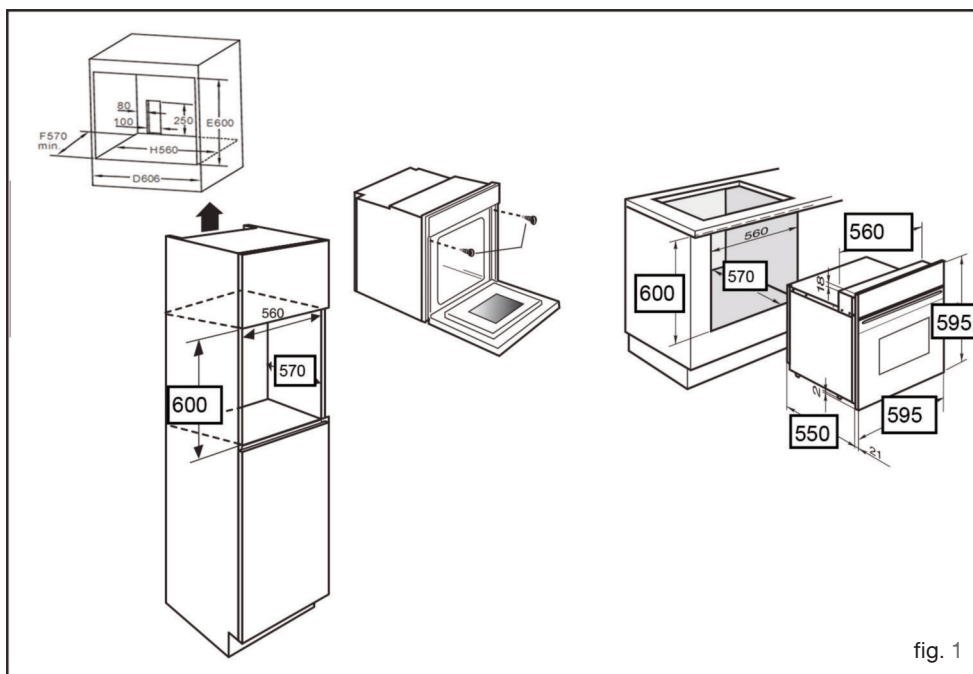

fig. 1
- For greater stability, attach the oven to the unit with 2 screws through the holes provided on the side panels (fig. 1).